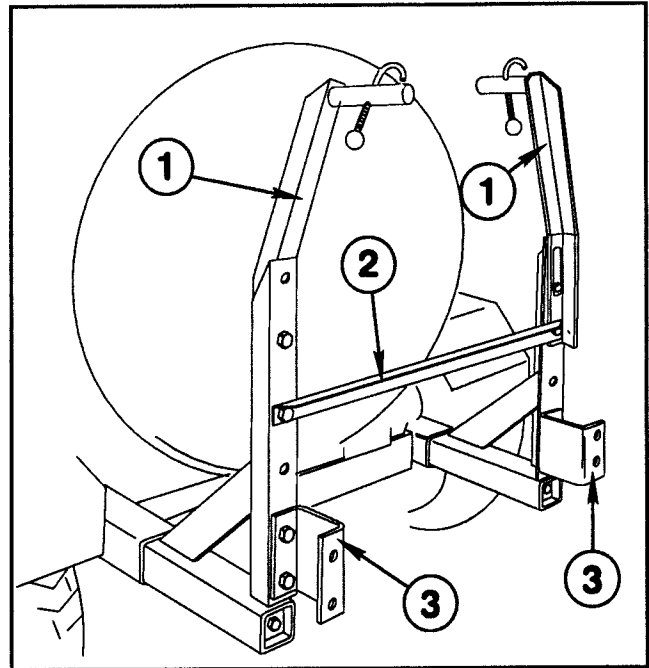

Figure 2
3. Install the two (2) Boom Hold-In Assemblies and the Solenoid Mounting Bracket to the top of the Boom Mount uprights as shown in FIG. 2, using four (4) 1/2" x 1-1/4" cap screws, flat washers and lock nuts.
4. Attach the two "U"-shaped Boom Mounting Brackets to the bottom of the Boom Mount uprights with four (4) 1/2" x 1-1/4" cap screws, and lock nuts. (See FIG. 2.)